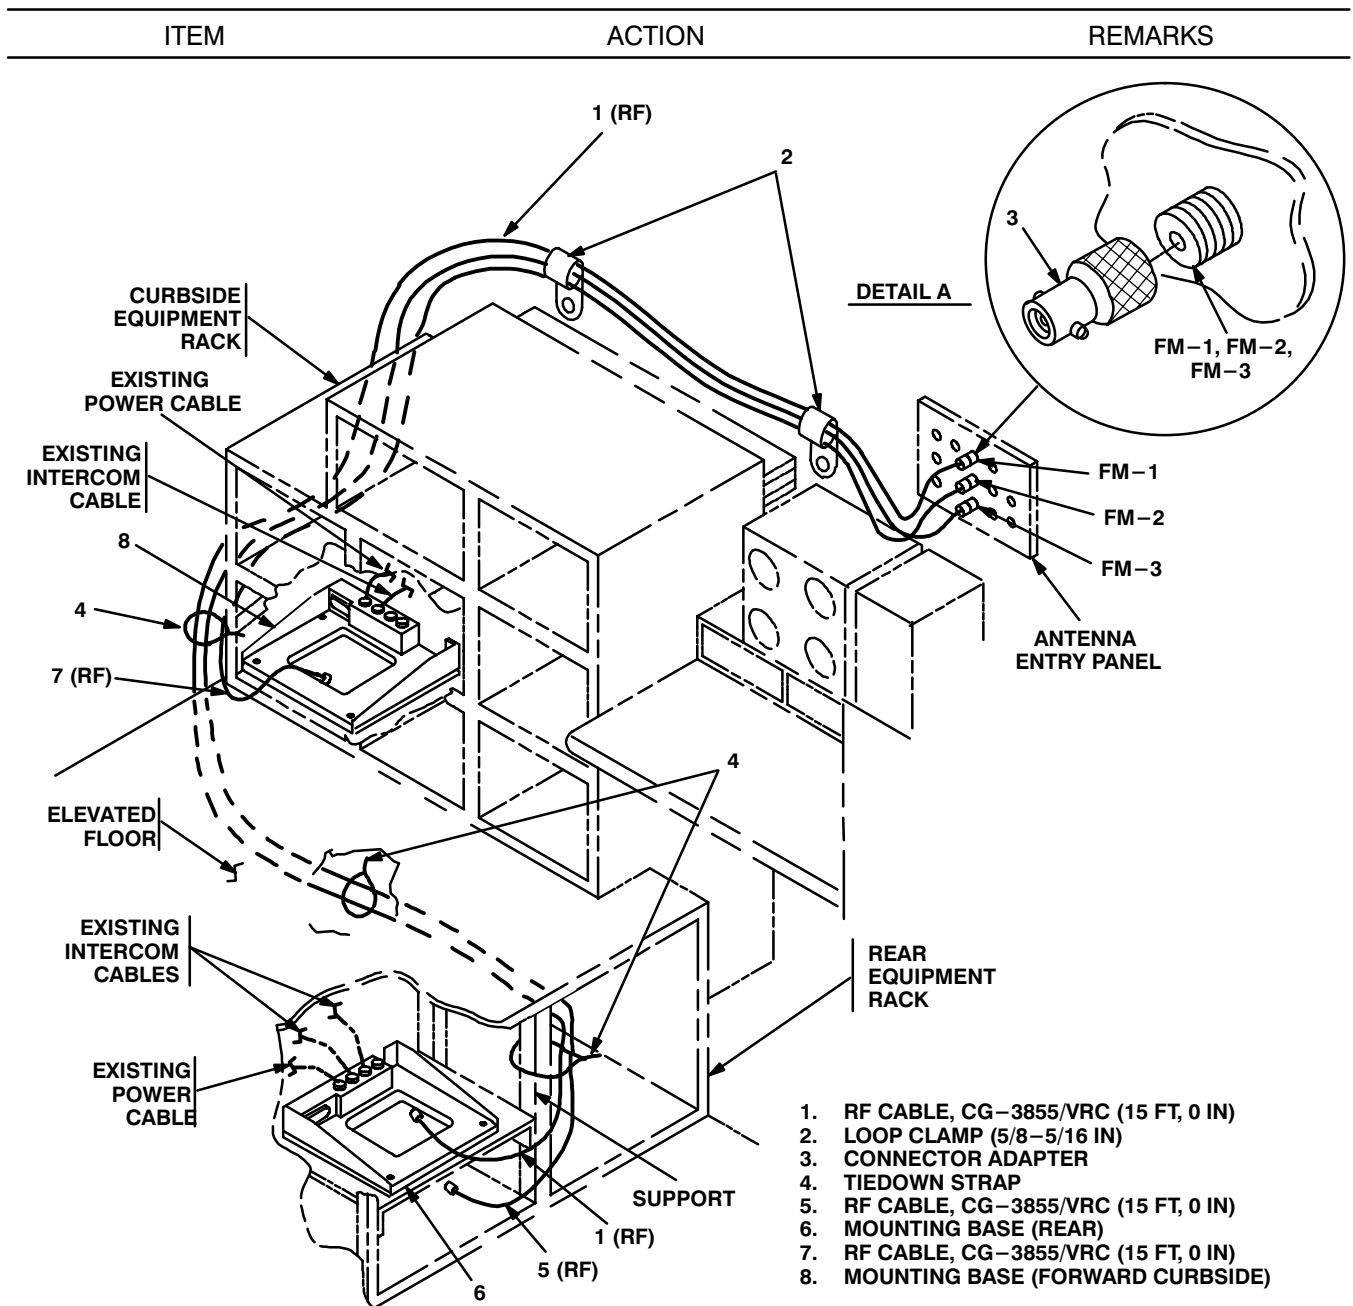

Figure 5-5 (2). Cable Installation: Interior Cabling
- q. Tiedown strap (4). Install loosely around RF cables (1, 5, 7) near forward edge of curbside equipment rack. See figure 5-5 (2) for location(s).
- r. Tiedown strap (4). Install loosely around RF cables (1, 5) below elevated floor.
- s. RF cable (1) connector P2. Position on top of mounting base (6). See figure 5-5 (2).